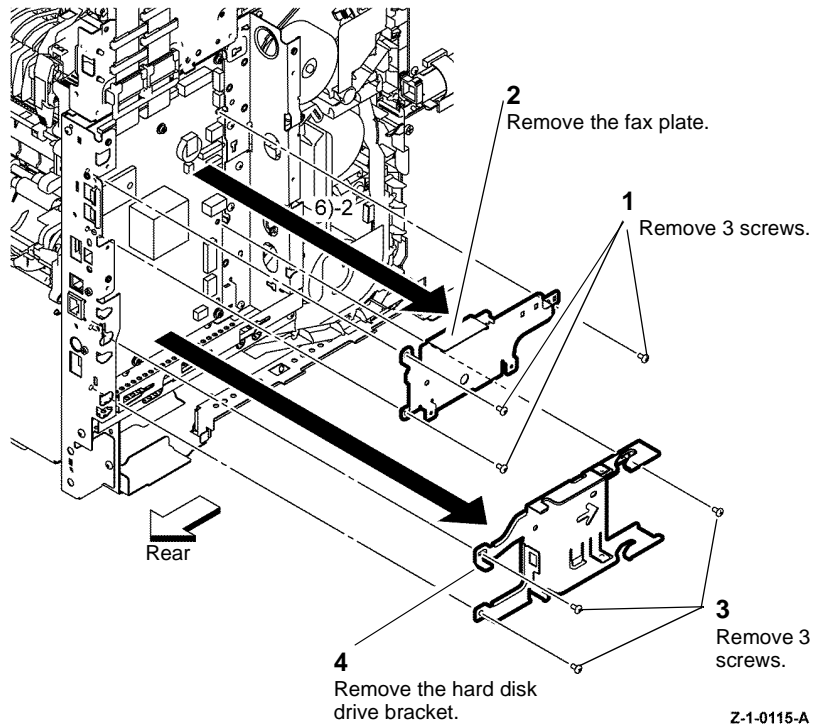

Figure 2 Fax plate and hard disk drive bracket
3. Remove the Fax plate and hard disk drive bracket, **Figure 2**.